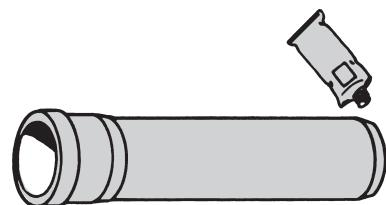

Fig. 2
- 3 Lubricate the part to be coupled with Coes product AT1426 (*Fig. 2*)